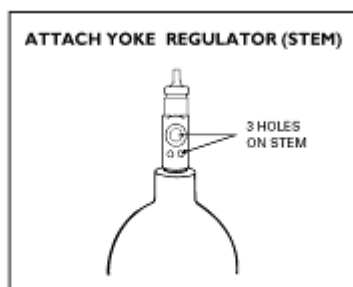

Figure 3-11. Three holes on the oxygen cylinder stem
- (1) Locate the three holes on the oxygen cylinder stem and ensure that an "O" ring is present. Refer to Figure 3-11.